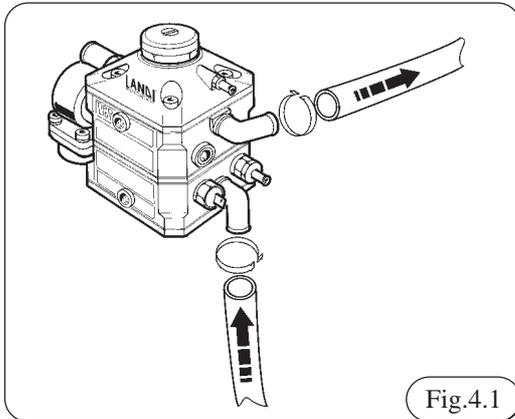

Fig.4.1
- By using the clamps supplied, secure the heater hoses to the water fittings of the regulator as in Fig. 4.1.